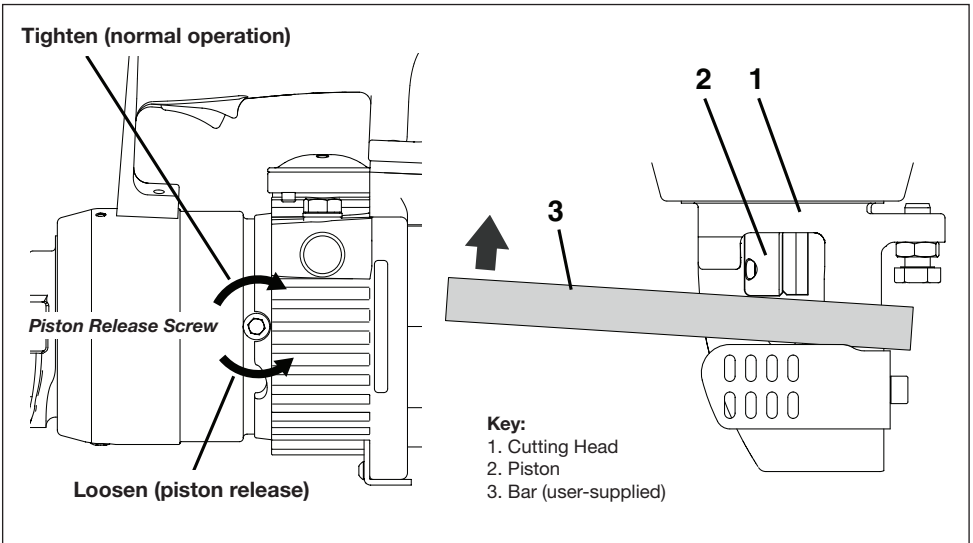

Figure 12, Piston Manual Retract Procedure
Refer to the following steps. See Figure 12:
4. Using a rigid piece of steel bar, manually push the piston inside the cutter until it is returned to the home position. See Figure 12, item 3. This should dislodge any dirt or other material that had prevented the piston from returning during normal operation.
8. Clean the exposed portion of the piston. Remove any debris, chips or dirt from this area. See Figure 12, item 1.